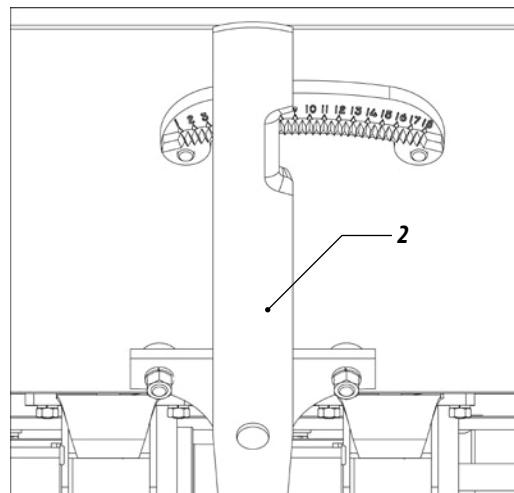

Figure 13
- 02 - The amount of seed is adjusted through the lever (2) of FIGURE 13.